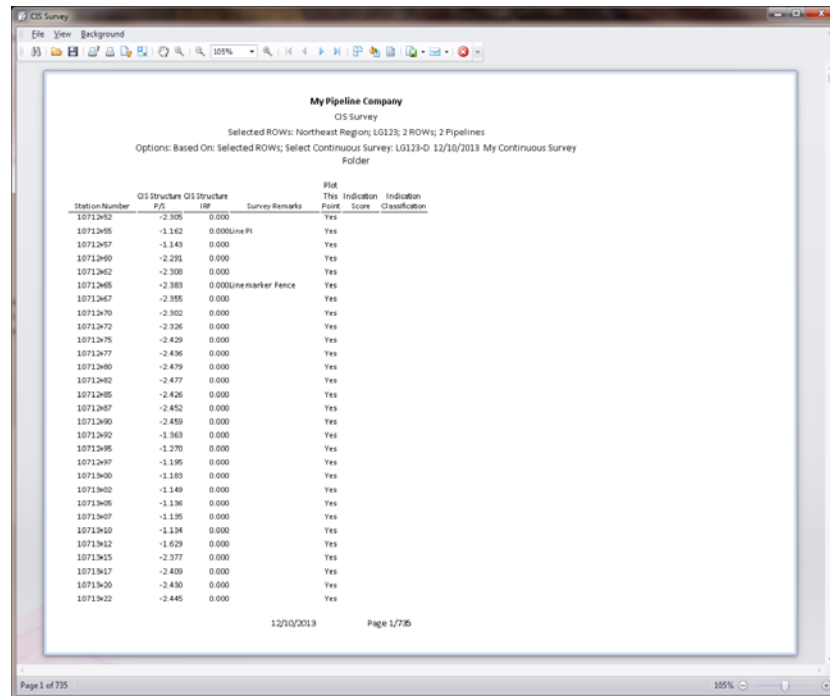

Figure 7-82. Print Preview
- 5 Click  **Print** to open a print preview window (Figure 7-82).